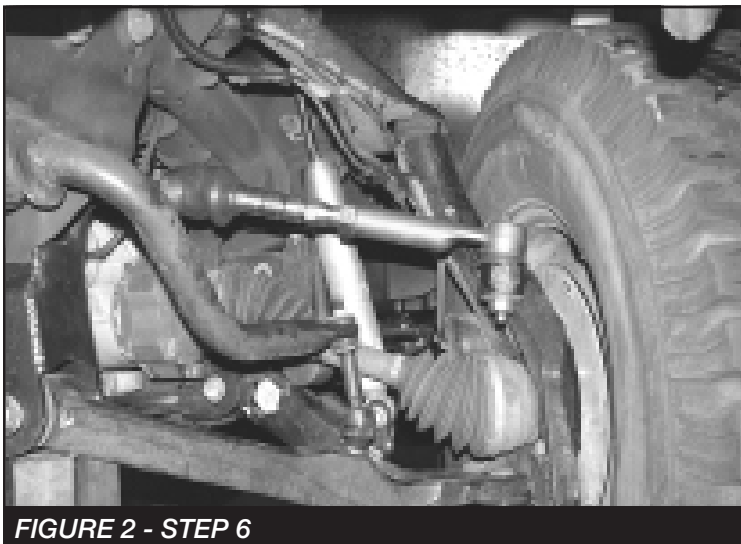

FIGURE 2 - STEP 6
6. Using a clean rag and a grease dissolving solvent clean all the grease out from the threads where the inner tie rod ends connect to the center link. **SEE FIGURE 2**